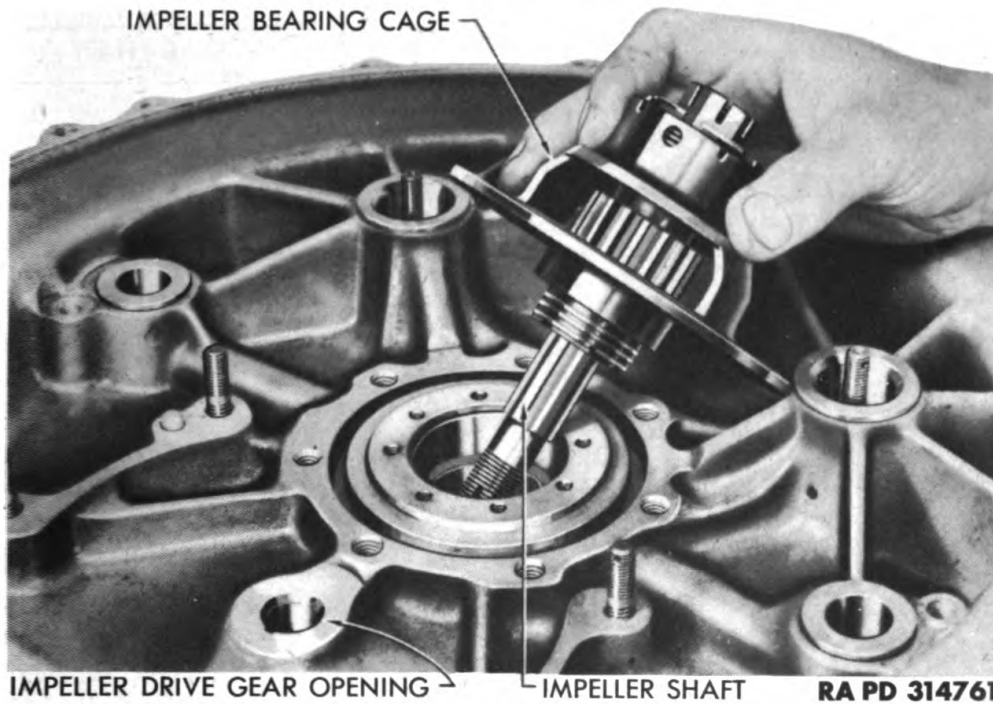

Figure 151 – Removing Bearing Cage
e. Remove Impeller Bearing Cage. With screwdriver, take out seven slotted screws that hold impeller bearing cage to diffuser section (fig. 150). Lift out cage assembly (fig. 151). Oil seals, rings, and shims ordinarily will come out with cage. If they do not, remove them from cage. Remove gasket.